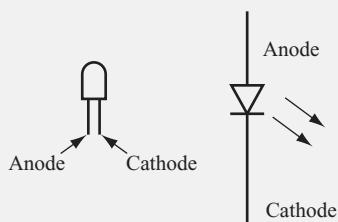

FIGURE 4.10
The infrared light in this project is generated by a light-emitting diode (LED). In an LED, a current runs through a PN junction that generates light. This same process occurs with all diodes. Infrared LEDs are simply diodes with a transparent case that enables the infrared light to show through. LEDs also have a PN junction made with semiconductor material that produces a large amount of infrared light. Figure 4.10 shows a typical LED and its schematic symbol, the symbol for a diode with arrows pointing outward, indicating that light is generated.
1. Align the rounded top of the LED toward the rounded top of the photodiode with the circuit boards a few feet apart from each other. (If you use a typical LED and photodiode, you must bend their leads to align them.) Note that the rounded top of both the LED and photodiode shown in Figures 4.10 and 4.11 contain a lens to emit or absorb light. Some LEDs and photodiodes have lenses on the side, instead of on the top. If it isn’t obvious where the lens is in your components, check the manufacturer’s data sheet.